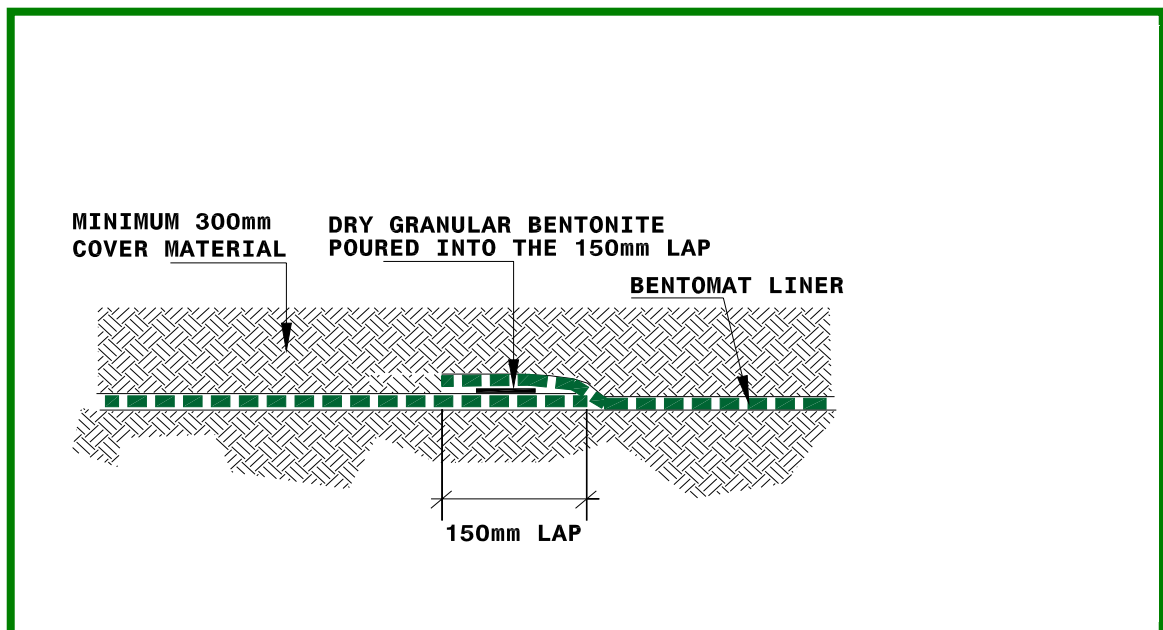

Figure 3. Bentonite-enhanced overlapped seam.
- 7.4 Bentonite-enhanced seams are constructed first by overlapping the adjacent panels as instructed previously, exposing the underlying edge, and then applying a continuous bead or fillet of granular sodium bentonite (supplied with the GCL) along a zone defined by the edge of the underlying panel and the 150 mm line (Figure 3). The minimum application rate at which the bentonite is applied is 0.4 kg/m.